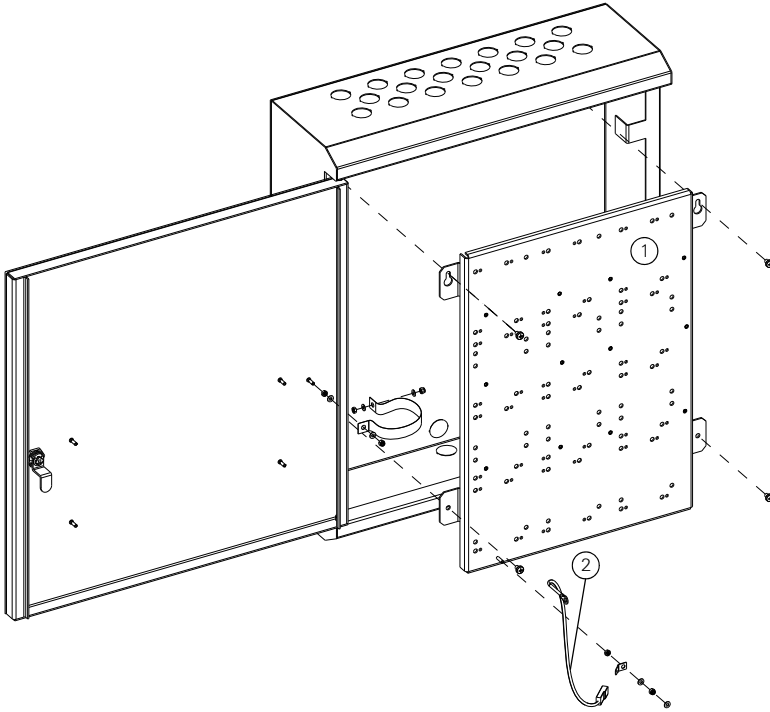

Fig. 3: Backplate Fitting-FC-ANC
- 4 Place the module onto the backplate, in the approximate final position. The backplate is Item 1 in Fig. 3. Now adjust the position to find a set of holes in the backplate through which to push the pillars.
- 6 Mount the backplate to the rear of the housing. Use the appropriate screws in the threaded bosses of the housing. See Fig. 3.
- 7 Make sure the earth wire is connected (Item 2 in Fig. 3). This connects between the stud in the side wall of the housing, and the tag on the backplate.